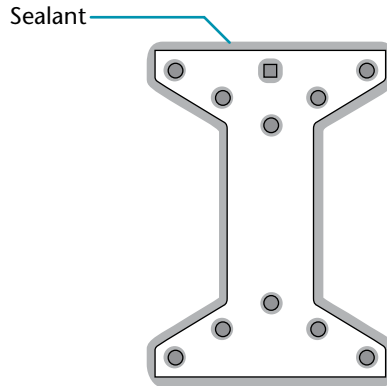

Figure 4-43. Applying sealant onto base plate
9. While holding the base plate in place on the roof, apply silicon sealant onto the eight pilot holes and around the bottom edge of the base where it contacts the mounting surface (see figure 4-43). Doing so will prevent water from seeping into your house.